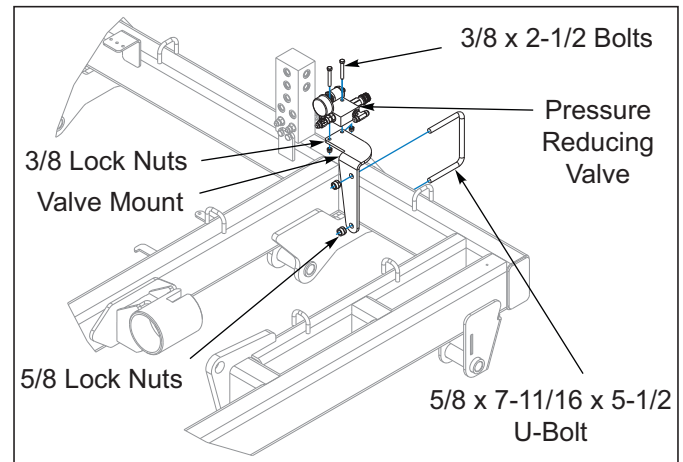

Figure 3-39: Pressure Reducing Valve Installation
8. Attach the valve mount plate to front tube of center frame using 5/8 x 7-11/16 x 5-1/2 u-bolt and 5/8 lock nuts See Figure 3-39.